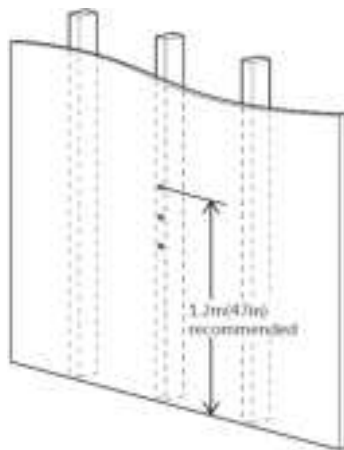

Fig. 3a
- Locate the wood stud with using stud finder (not included), then use the bracket (3) as a template to mark the drilling position with marker. It is recommended that the upper hole is 1.2m above the floor. (see Fig. 3a)